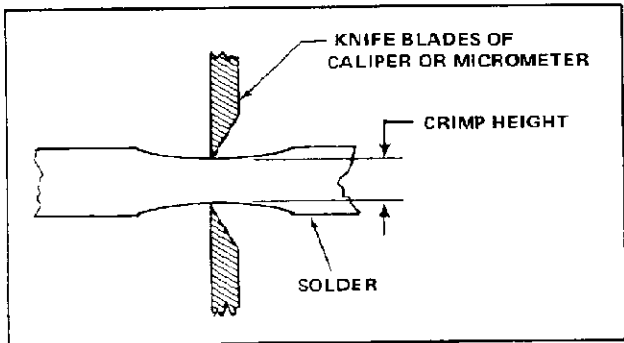

Figure 5.
6. MEASURING CRIMP HEIGHT (See Figure 5)